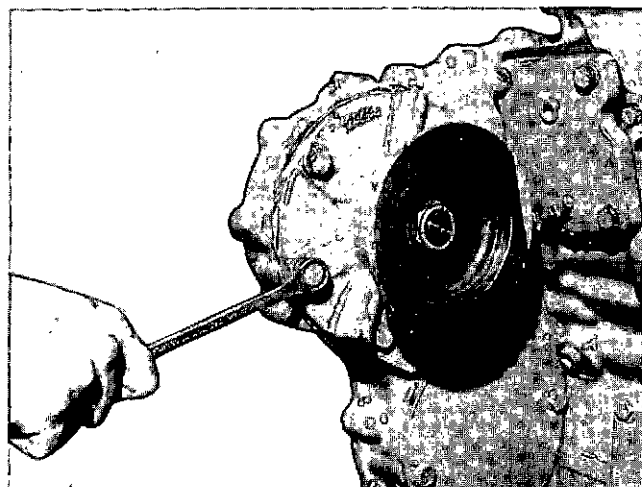

Fig. 14-1-46, V414147. Fuel pump drive mounting
4. Secure in place with lockwashers and capscrews. Fig. 14-1-46.